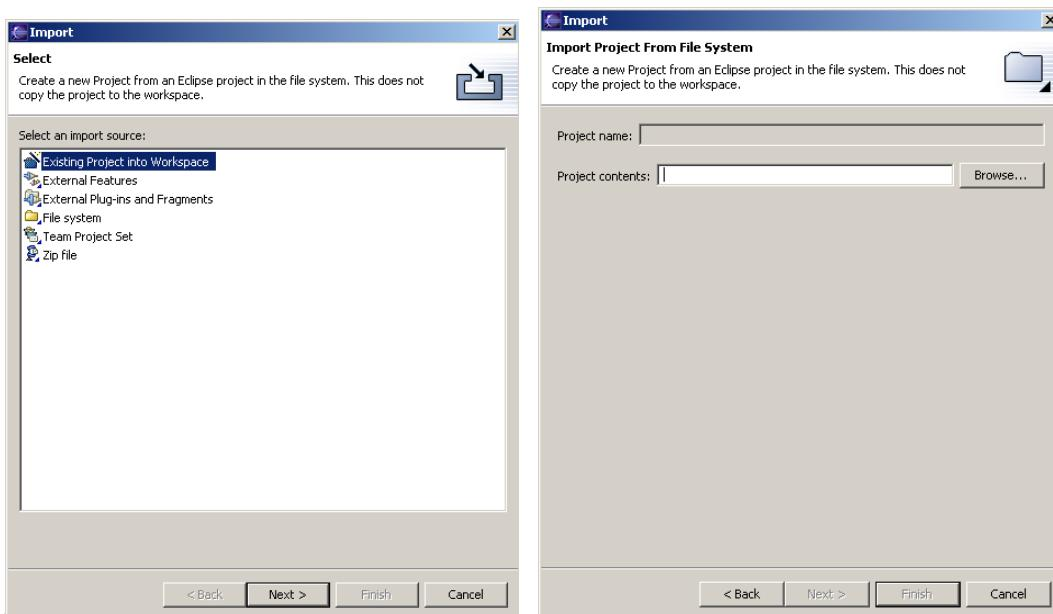

Figure 14 (a). Import wizard panel (b) Browse for existing project
Step 1: Select *File* on the main menu of Eclipse. Click on *Import*. The panel in Figure 14(a) will appear.
Step 2: Select *Existing Project into Workspace*. Click *Next*. The panel in Figure 14(b) should appear.